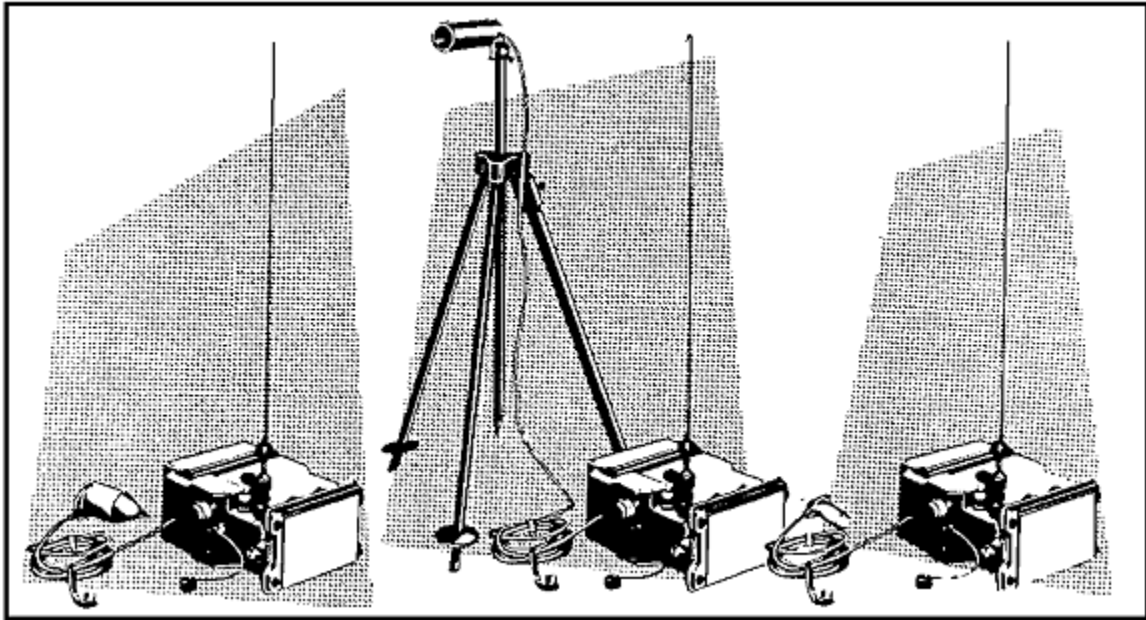

Figure 1-2. REMBASS Sensors.
REMBASS sensors and repeaters can transmit 15 kilometers ground-to-ground or 100 kilometers ground-to-air. Because the transmission is micro-burst, REMBASS transmissions are extremely difficult to locate with direction finding (DF) equipment. Because of the flexibility of the equipment and range of applications, various REMBASS equipment (see Figure 1-2) combinations can be selected to suit any mission. REMBASS equipment will be further discussed in lesson two.